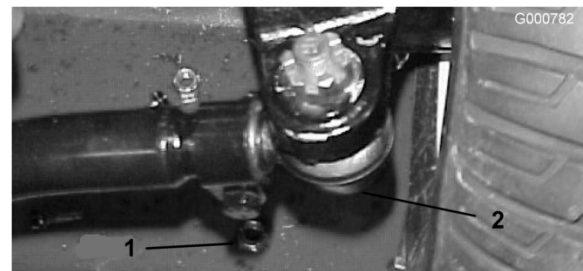

Figure 58
2. To adjust, remove the cotter pin and nut from either tie rod ball joint. Remove tie rod ball joint from axle case support (Figure 58).
3. Loosen the clamps at both ends of the tie rods (Figure 58).